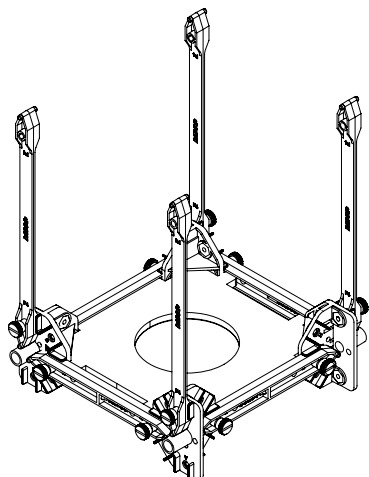

Figure 7: Attaching Flat F4 Beams to the first floor.
3. Use four truss set screws to attach four additional Flat F4 Beams to the top vertical slots of the half round connectors on the first floor. (See Figure 7.)